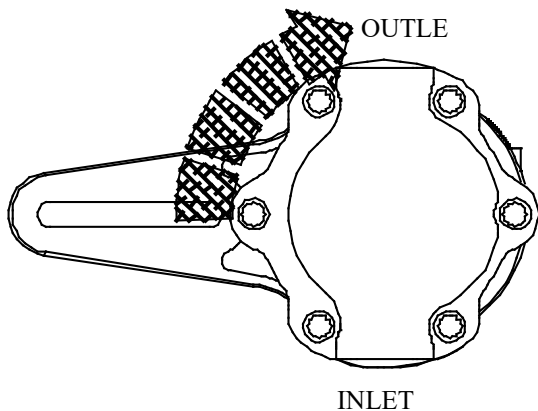
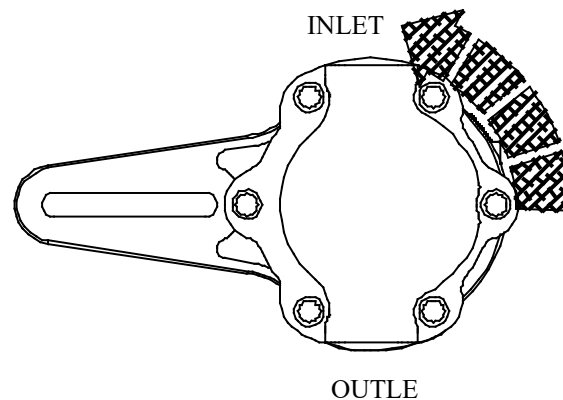

Figure 1a
Figure 1b
5. Determine which direction the fuel pump shaft will rotate. The direction the shaft is rotated will determine which port is the inlet and which is the outlet. Using Figure 1a & 1b as a reference identify the fuel pump inlet and outlet ports. If the fuel pump shaft is rotated in a clockwise direction as viewed from the rear of the pump the inlet and outlet ports will be as shown in Figure 1a. If the fuel pump shaft is rotated in a counter-clockwise direction the inlet as shown in figure 1a now becomes the outlet and the outlet in figure 1a is now the inlet, this is shown in figure 1b.